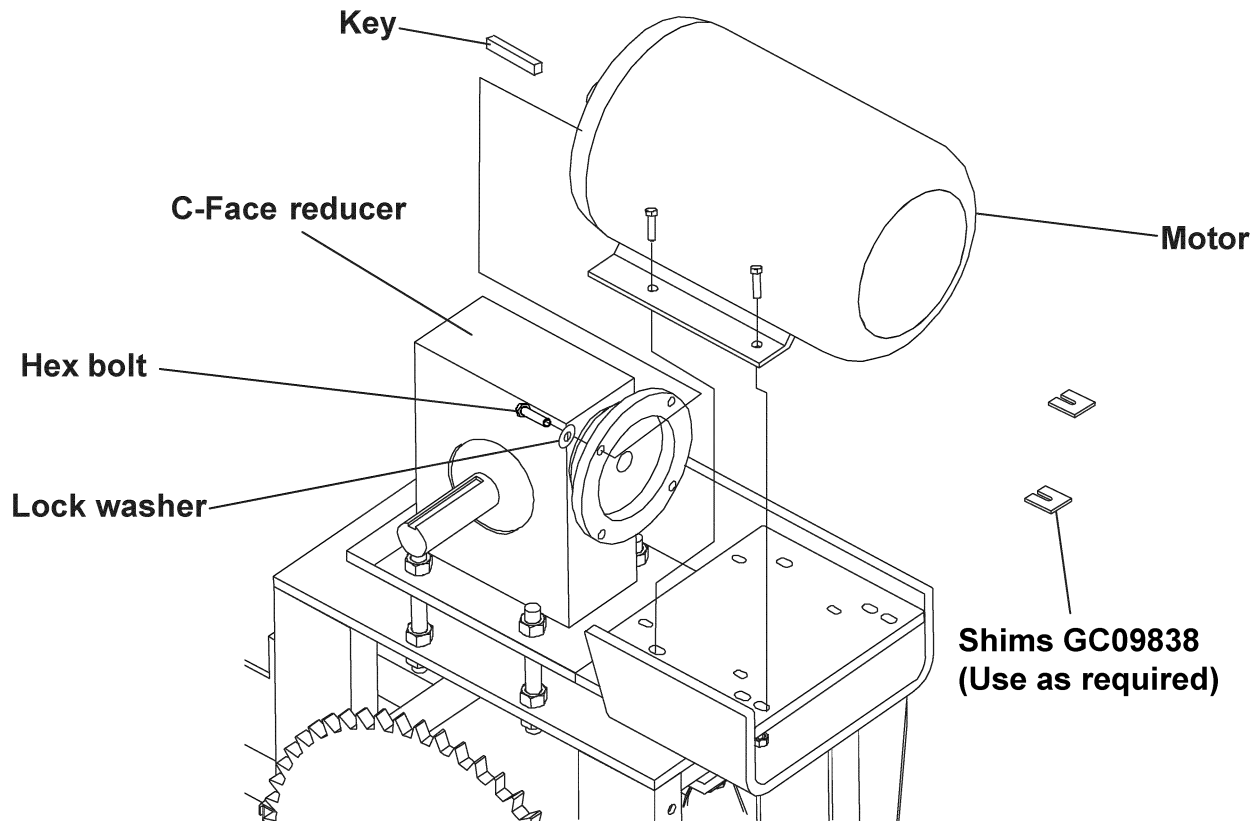

Figure 5P
A. Bolt the C-Face motor to the reducer using hex bolts, lock washers and a key. (See Figure 5P)
- C. Assemble the Bottom Chain Guard Trap to the Bottom Chain Guard Weldment using 1/2" x 3" HHCS bolts, 1/2" split lock washers, and 1/2" hex nuts. *(See Figure 5P)*